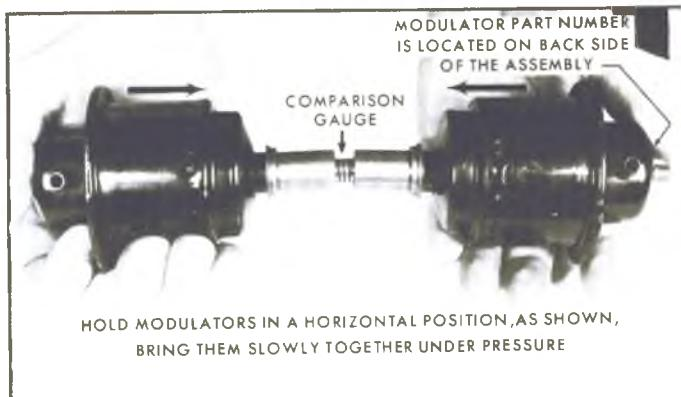

Fig. 35M—Checking Bellows Load
- Holding the modulators in a horizontal position, bring them together under pressure until either modulator sleeve end just touches the line in the center of the gauge. The gap between the opposite modulator sleeve end and the gauge line should then be $1/16"$ or less. If the distance is greater than this amount, the modulator in question should be replaced. (Figs. 35M, 36M, and 37M).